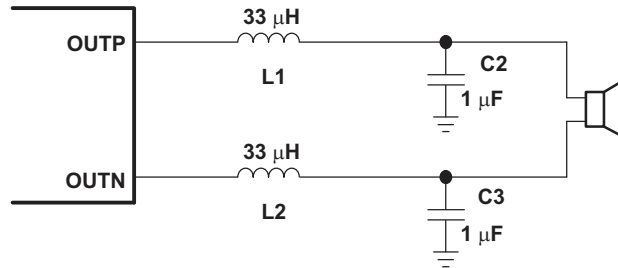
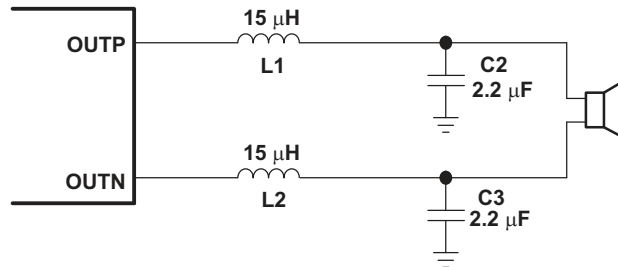

Figure 27. Typical LC Output Filter, Cutoff Frequency of 28 kHz, Speaker Impedance = 8 Ω
Figure 28. Typical LC Output Filter, Cutoff Frequency of 28 kHz, Speaker Impedance = 4 Ω
Using the LC filter in Figure 27, the TPA3100D2 EMI EVM passed the FCC Part 15 Class B radiated emissions with 21-inch speaker wires. Quasi-peak measurements were taken for the 4 standard test configurations, and the TPA3100D2 EVM passed with at least 17-dB margin. A plot of the peak measurement for the horizontal rear configuration is shown in Figure 30.
- Output filter—The ferrite EMI filter (Figure 29) should be placed as close to the output terminals as possible for the best EMI performance. The LC filter (Figure 27 and Figure 28) should be placed close to the outputs. The capacitors used in both the ferrite and LC filters should be grounded to power ground. If both filters are used, the LC filter should be placed first, following the outputs.